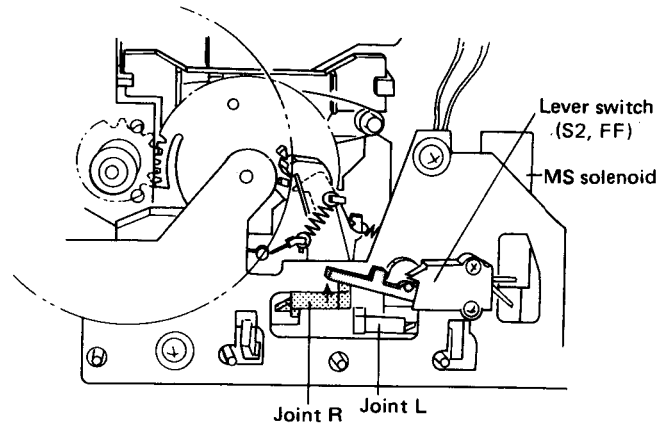

Fig. 13-9 FF (REW), MS operation 1 (Lever switch ON)
FF (or REW) Operations (Fig. 13-9 – 13-11)
1. When the FF (or REW) button is pressed, joint R (L) moves in the direction of ①, pressing down ① direction) on the FF (REW) action plate. At the same time, the lever switch is thrown to the ON position (Fig. 13-9, 13-10).
2. Next, the brake-plate is pressed down by the FF (REW) action plate, and at this time the driving arm is forced in the ③ (or ④) direction to start the reel base rotating in the FF (or REW) mode.
3. At the same time, gear lever C moves in the ⑤ direction and the head base (HB) lock lever moves in the ⑥ (or ⑦) direction. (This procedure also applies to MS operations).